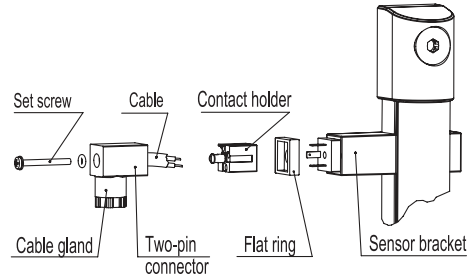

Fig.2
- Remove the assembly end of the indicator (Fig. 2).